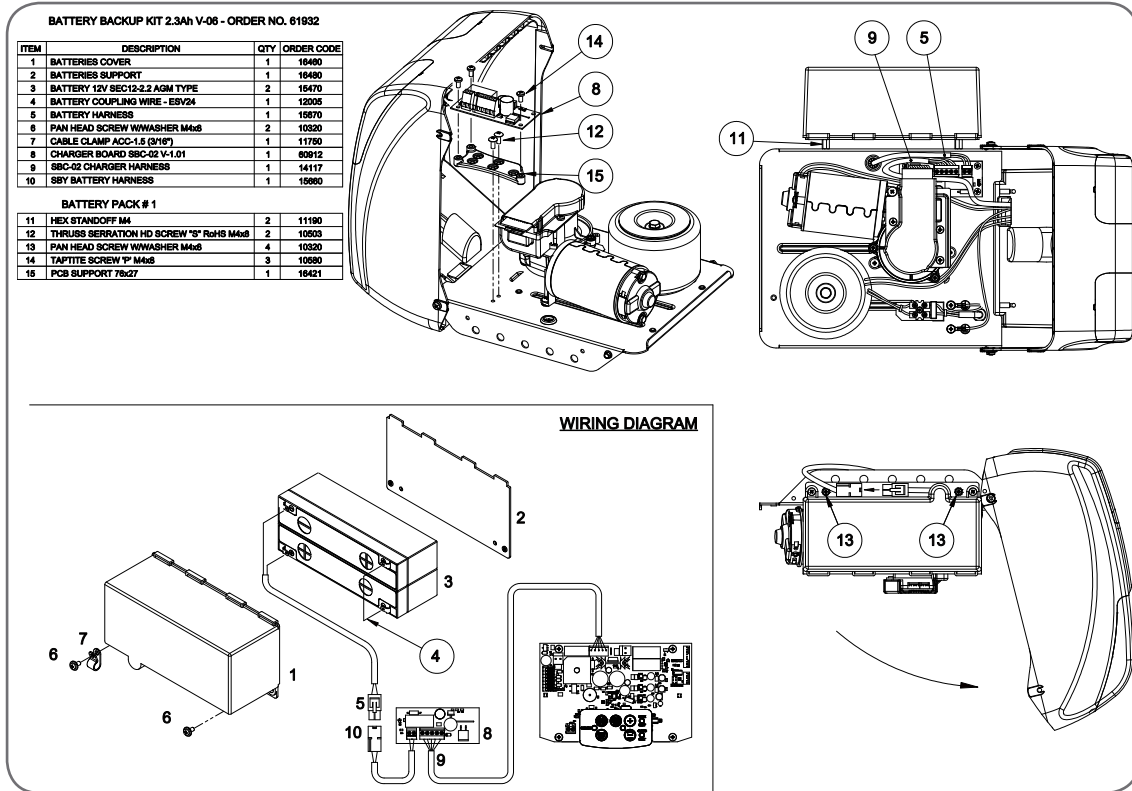

Fig. 37
2. Remove screws and swing open the cover (Fig 37).
3. Mount the PCB support with two screws item # 12. Secure the SBCO-2 Charger Board onto the PCB support with three (3) screws item #14.
6. Mount Battery Backup and secure with item 11 and 13.
7. Connect item 5 and 10 together (Fig 37).